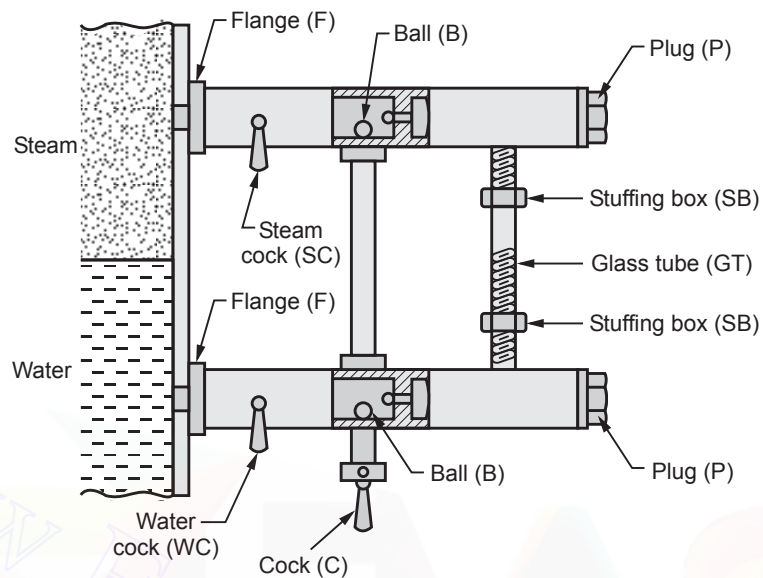

Fig. 2.9 : Water level indicator
- The Fig. 2.9 shows water level indicator.